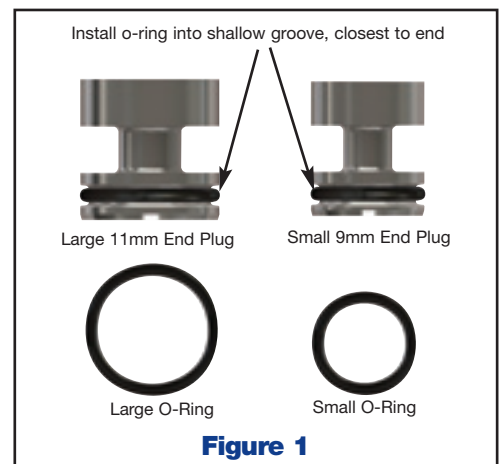

Figure 1
- For both the 9mm and 11mm end plugs, install the correct o-ring into the shallow groove that is closer to one end of the plug (see Figure 1). The deeper centered groove is for the retainer. The small o-ring installs onto the 9mm end plug while the large o-ring fits onto the 11mm end plug.